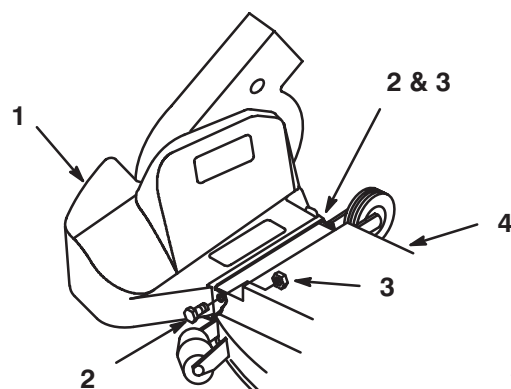

Figure 21
- Mount the blower belt cover to the mower belt cover using 2 bolts (1/4 x 5/8 in.) and locknuts (Fig. 21). Tighten the lock nuts slightly so that a light drag is felt on the belt cover when tilted upward. The cover must close freely when assembled.